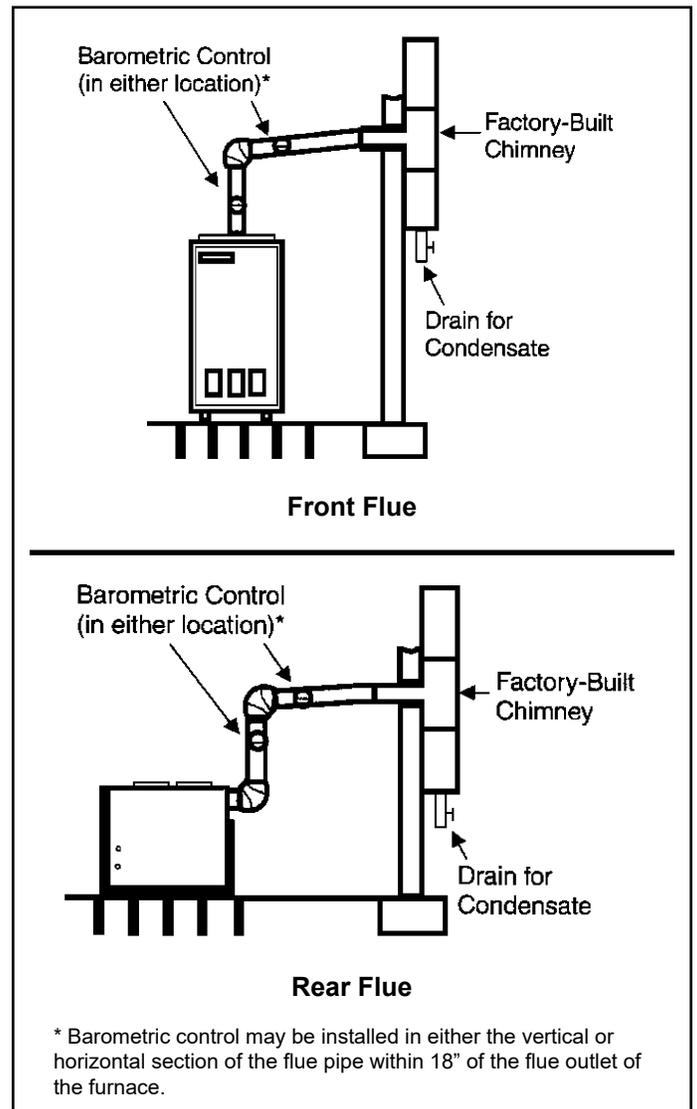
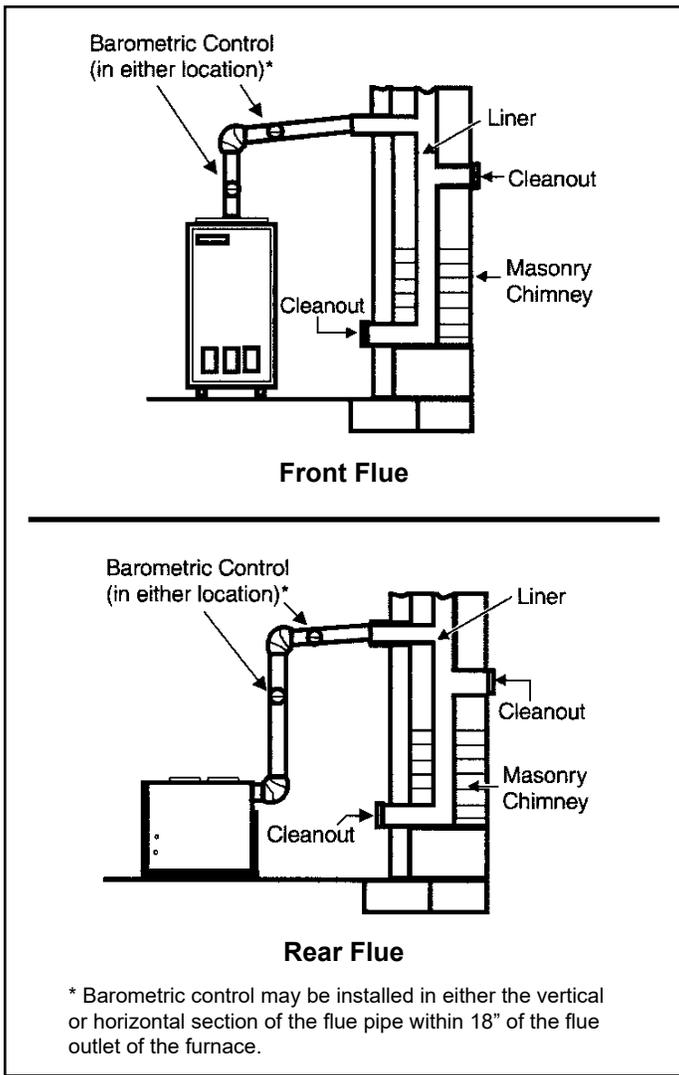

Figure 7. Factory-Built Chimney
Figure 8. Masonry Chimney
8. The flue pipe should slope upward toward the chimney on a horizontal run of at least 1/4" per foot and should be supported by something other than the furnace (see Figure 7 and Figure 8).
14. All vent pipe run through unconditioned areas or outside shall be constructed of factory-built chimney sections (see Figure 7).
15. Where condensation of flue gases is apparent, the vent shall be constructed to prevent the condensation from entering the flue transition box opening. Provisions shall be made to drain off the condensate (see Figure 7).